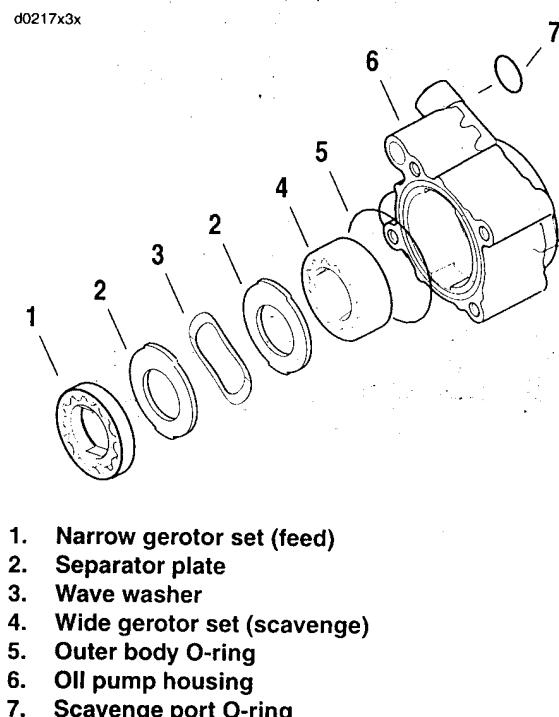

Figure 3-64. Assembling Oil Pump
14. See Figure 3-64. Assemble and install oil pump. Lubricate parts with clean H-D 20W50 engine oil during assembly.
- a. Apply a very thin film of clean H-D 20W50 engine oil to **new** scavenge port stub O-ring (7). Install **new** O-ring on scavenge port stub of oil pump housing.
- b. Slide oil pump housing (6) onto crankshaft fitting O-ring on scavenge port stub into crankcase bore at back of cam compartment. Firmly push on scavenge port stub with thumb to be sure that it is snug in bore. Inspect O-ring on stub to verify that it is not pinched or distorted.
- c. Separate the gerotor gears into two sets, one wide (4) (scavenge) and the other narrow (1) (feed).
- d. Fit the smaller of the wide gerotor gears into the larger. Slide the wide gerotor set (4) down the crankshaft until it bottoms in the oil pump housing.
- e. Slide inside separator plate (2) down the crankshaft until it contacts the wide gerotor set (4). Install wave washer (3) and outside separator plate (2).
- f. Fit the smaller of the narrow gerotor gears into the larger. Slide the narrow gerotor set (1) down the crankshaft until it contacts the outside separator plate (2).